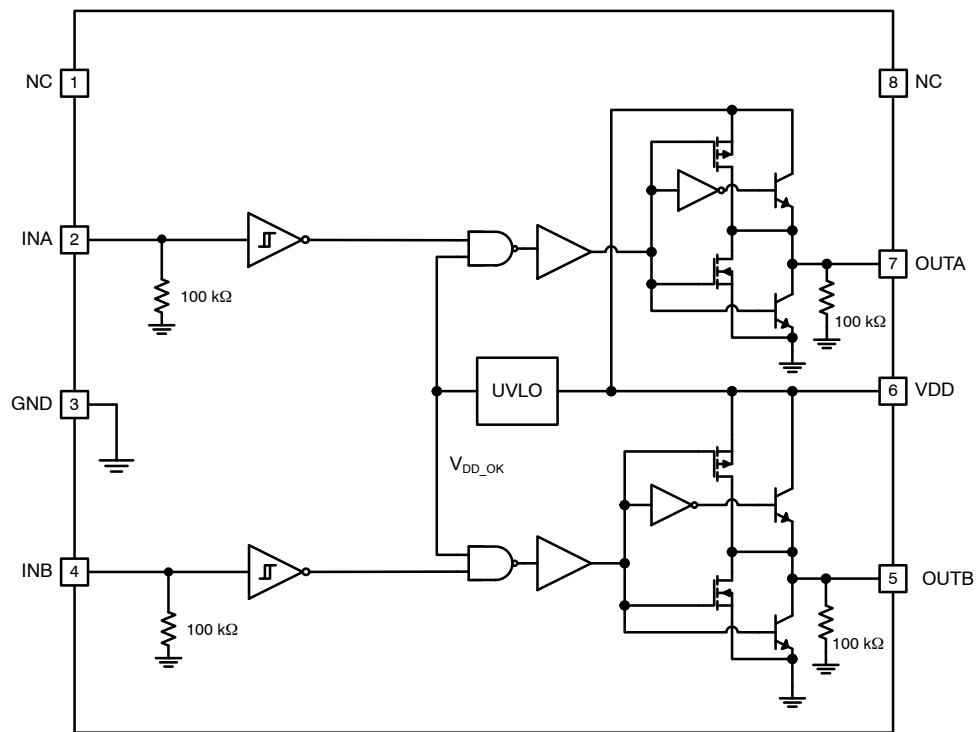
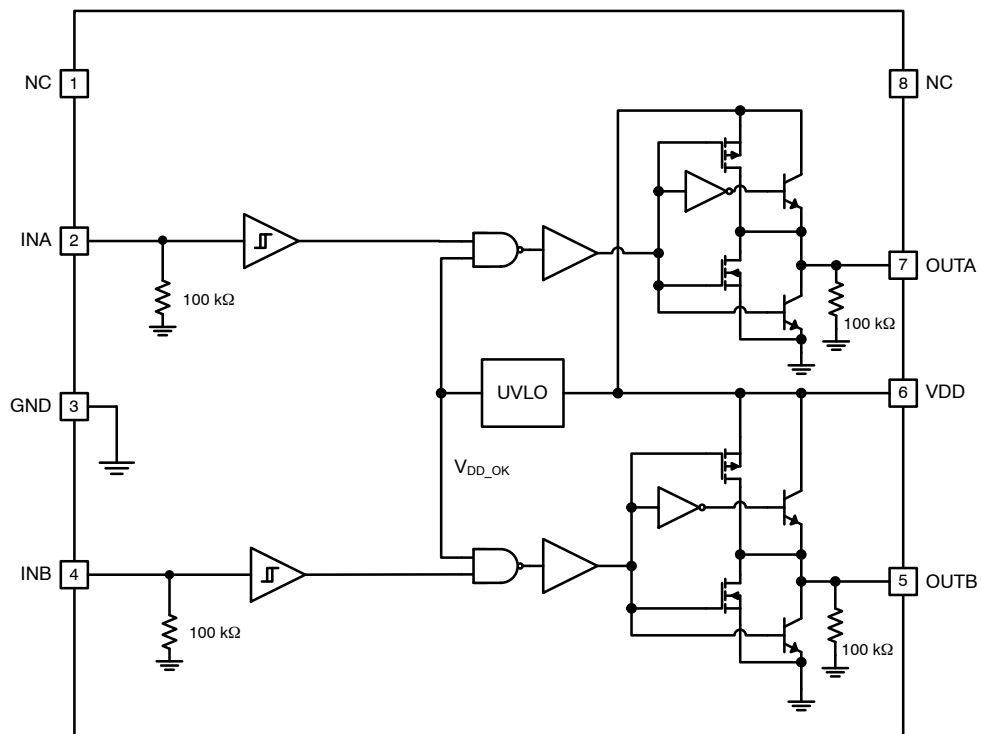

Figure 4. FAN3213 Block Diagram
Figure 5. FAN3214 Block Diagram
10. For any inverting inputs pulled low, non-inverting inputs pulled high, or outputs driven high; static I_{DD} increases by the current flowing through the corresponding pull-up/down resistor shown in Figure 4 and Figure 5.